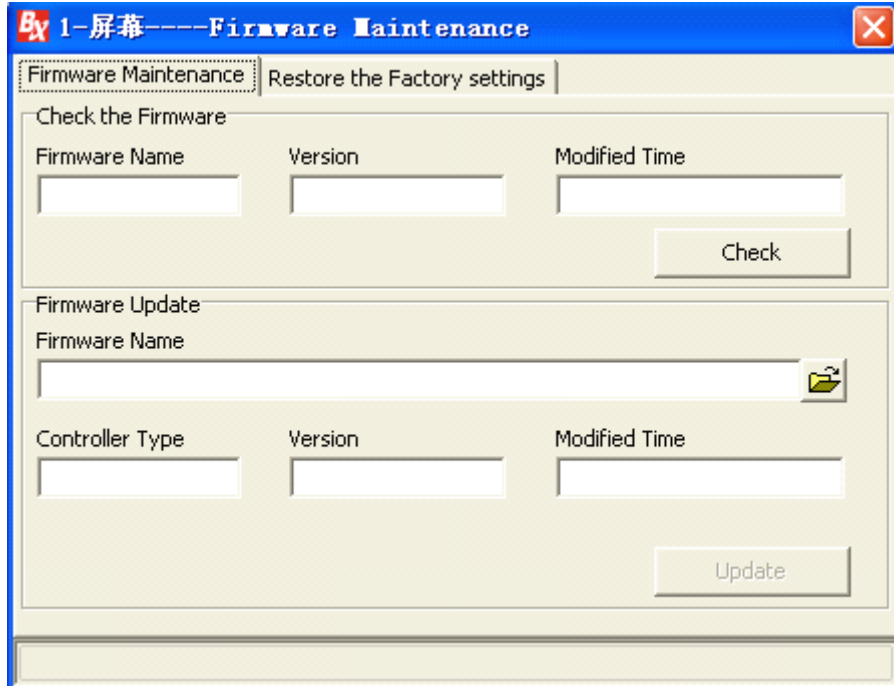

figure 5-28
- ◆ Click “firmware maintenance “ to popup the dialog box as shown in figure 5-3, input password”888” to popup the firmware maintenance interface as shown in figure 5-28.